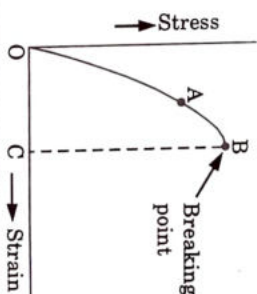

Fig. 1.10.1. Stress-strain diagram for brittle materials.
1. Fig. 1.10.1 shows the stress-strain diagram for brittle material, in which strain is are plotted along x-axis and corresponding stress is plotted along y-axis.